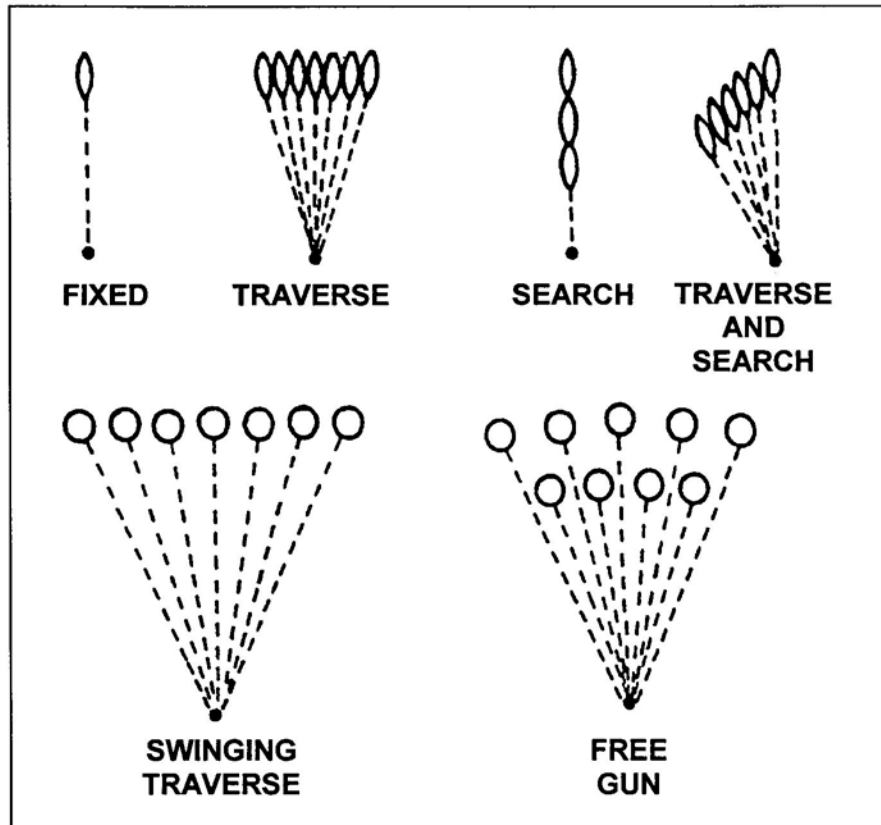

Figure 6. Techniques of fire with respect to the MK19.
- a. Use correct gun manipulation technique (Figure 6).
- (1) Fixed fire. This is fire delivered against a point target. Only one aiming point is necessary with little or no manipulation of the gun.
- (2) Traversing fire. This is fire distributed against a wide target requiring successive changes in direction of gun. This means using the T&E mechanism to traverse the gun left or right to distribute fire laterally.
- (3) Searching fire. This is fire delivered against a deep target or a linear target with depth in width by successive changes in elevation. This means using the T&E mechanism to move the muzzle of the weapon up or down to distribute fire in depth.
- (4) Traversing and searching fire. This is fire delivered in width and depth by successive changes in direction and elevation. It is employed against a target whose long axis is oblique to the direction of fire.
- (5) Swinging traverse. This is fire delivered against targets that require major changes in direction but little or no change in elevation. Loosen the traversing slide lock enough to swing the gun laterally.
- (6) Free gun. This is fire delivered against moving targets that must be rapidly engaged with fast changes in direction and elevation. To fire free gun, remove the T&E mechanism.